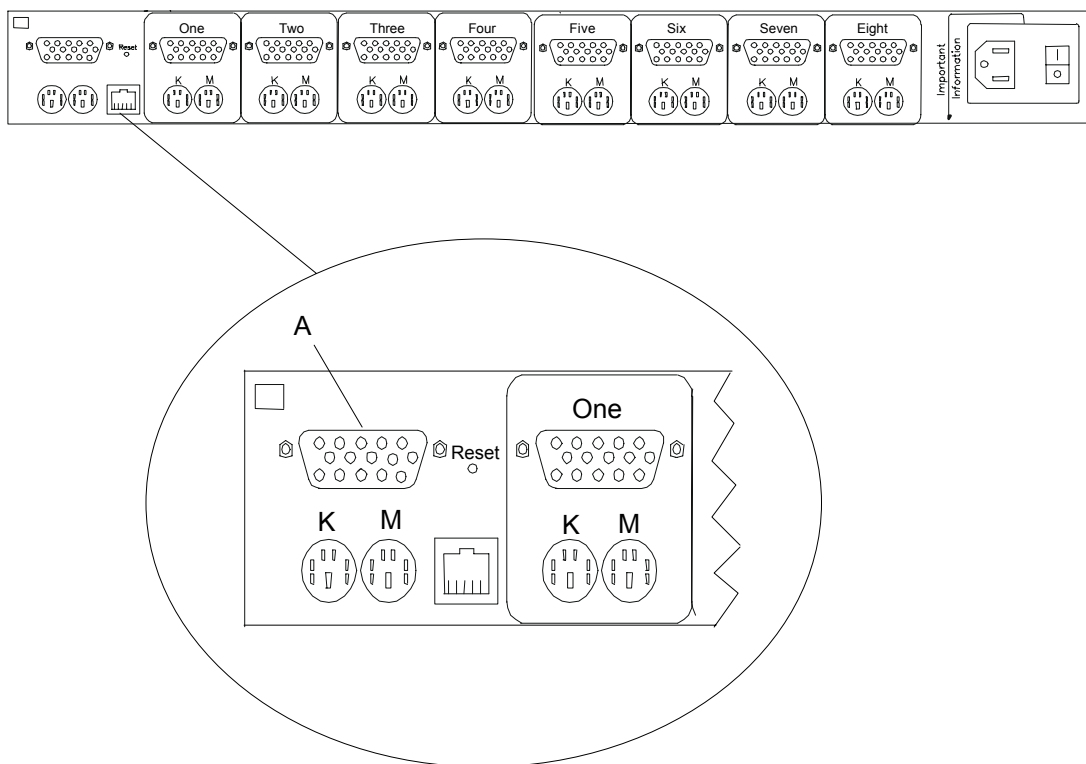

Figure 5-15. Connecting Cables to the Port Concentrator
1. The keyboard, mouse, and video display cables attach to the first group of connectors on the left of the concentrator when viewed from the rear. See Figure 5-15.
2. The top-most connector is for the monitor (Figure 5-15, A). Below the monitor connector, connect the keyboard to the keyboard connector (K) and connect the mouse to the mouse connector (M).
1. Connect the keyboard, mouse, and video display cable from each server to one of the concentrator connector groups labeled one through eight. See Figure 5-15.